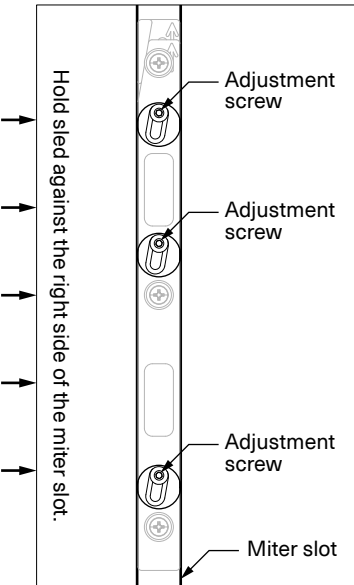

Fig 3b - Top view of assembled sled
- 3.3 Place the sled base on top of your table saw surface so the Miter Bar is set into one of the miter slots. Push the sled to the right so the Miter Bar is firmly against the inner wall of the miter slot [Fig 3b].